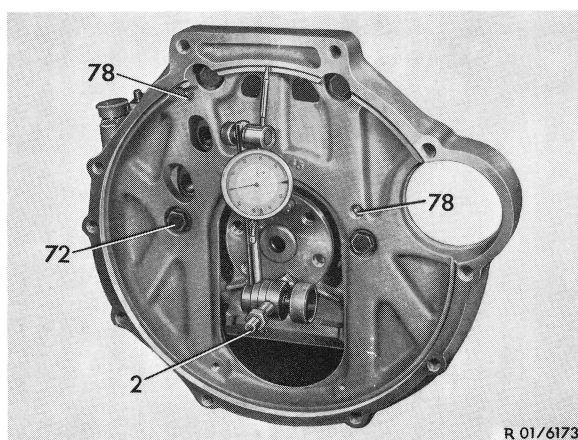

Fig. 1
1 Insert new intermediate flange into set pins (78) on crankcase and slightly tighten the four fastening screws (72) (Fig. 1).
3 Attach dial gauge with holder to threaded bolt and position feeler of dial gauge to OD of round centering line of intermediate flange (Fig. 1).